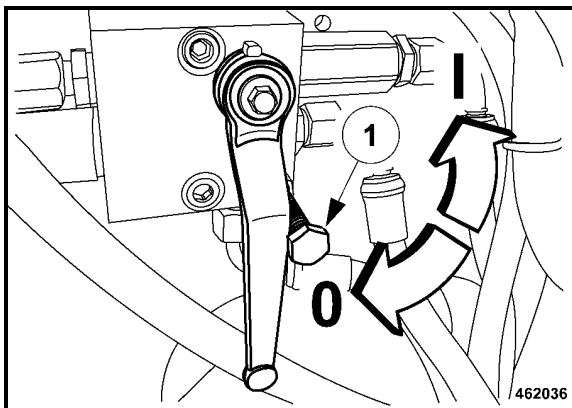

Fig. 104
- Unscrew the locking screw (1) (Fig. 104) and switch the ball valve¹ to position "I".